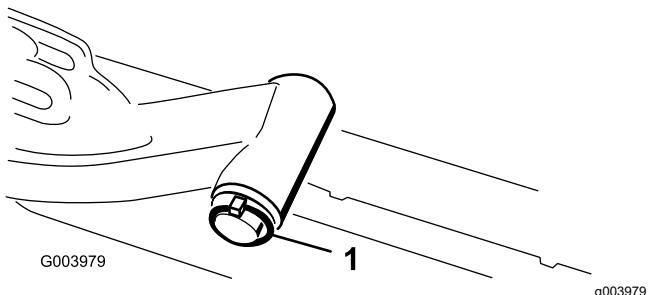

Figure 8
A. Remove the lynch pin and washer securing the lift-arm pivot shaft to the lift arm and slide the lift-arm pivot shaft out of the lift arm (Figure 8).
C. Insert the lift-arm shaft into the lift arm and secure it with the washer and lynch pin (Figure 8).